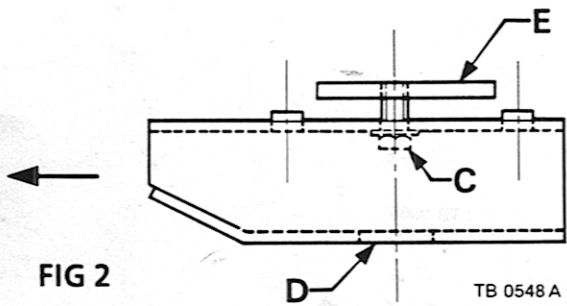

FIG 2
- 3 Insert screw 'C' through hole in skid plate 'D' and partially into tapped plate 'E' (as fig. 2).